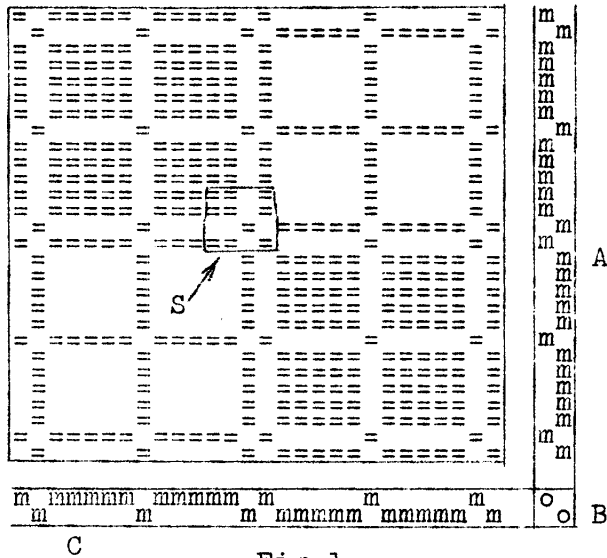
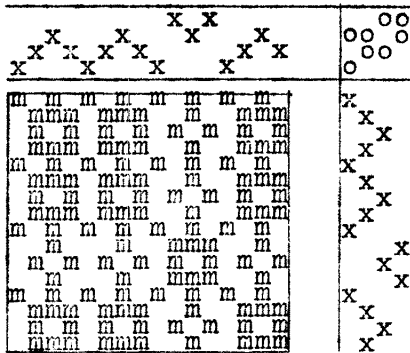
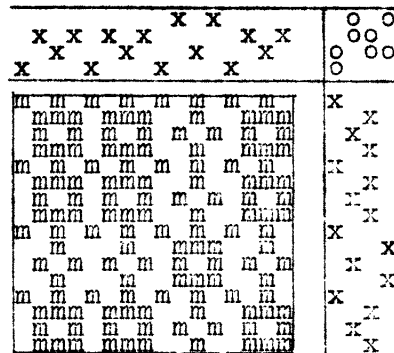
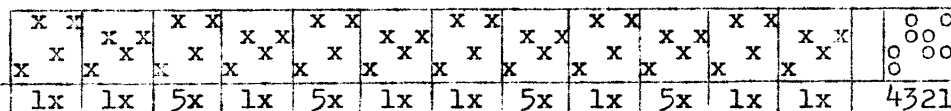

Fig.1
Fig.2
Fig.3
Fig.4
Therefore we make our analysis in two steps. First we analyse a small piece of fabric taken from a place where two blocks of the pattern meet (S, fig.1). This should give us an idea as to the weave used. The second step consists on analysing the pattern alone without paying any attention to the weave.
The second step is based on the same principle as the analysis of fabrics, but instead of a threading draft we get the Profile (C, fig.1), instead of a Tie-Up we have a Short Tie-Up Draft (B, fig.1) and instead of treading - a Short Treading Draft (A).
Let us now follow the analysis of the fabric shown in fig.1. The weave looks very much like Crackle with only two blocks of pattern. To make sure we take a small sample (S, fig.1) and analyse it in full (fig.2).
The result of our analysis seems to be a little doubtful. It is very much like Crackle but not quite: the two units are not joined in the usual way. Now let us try to exchange frames 2 and 3, and at the same time move the tabby treadles to the left (fig.3). What we have now is a draft for Summer-&-Winter, but woven as if it were Crackle i.e. with only one pattern treadle for each block of pattern.
Now we go back to fig.1 and analyse the pattern in the usual way: group on one line of the profile all identical vertical lines. There are only two kinds of vertical lines, therefore only two lines in the profile. Then we repeat the same operation for treadling: group together all identical horizontal lines. Again there are only two lines in the short treadling draft. The resulting tie-up does not give us much information except that the two blocks of pattern are used singly, never in combination.
From the profile in fig.1 and the threading draft in fig.3 we can make easily a complete threading draft for the whole pattern (fig.4):
In the same way we find now the treadling. One unit of treadling (see fig.3) is 4,2,3,2; and the other: 4,1,3,1. We replace each square in the Short Treadling Draft (A, fig.1) by one of these units: